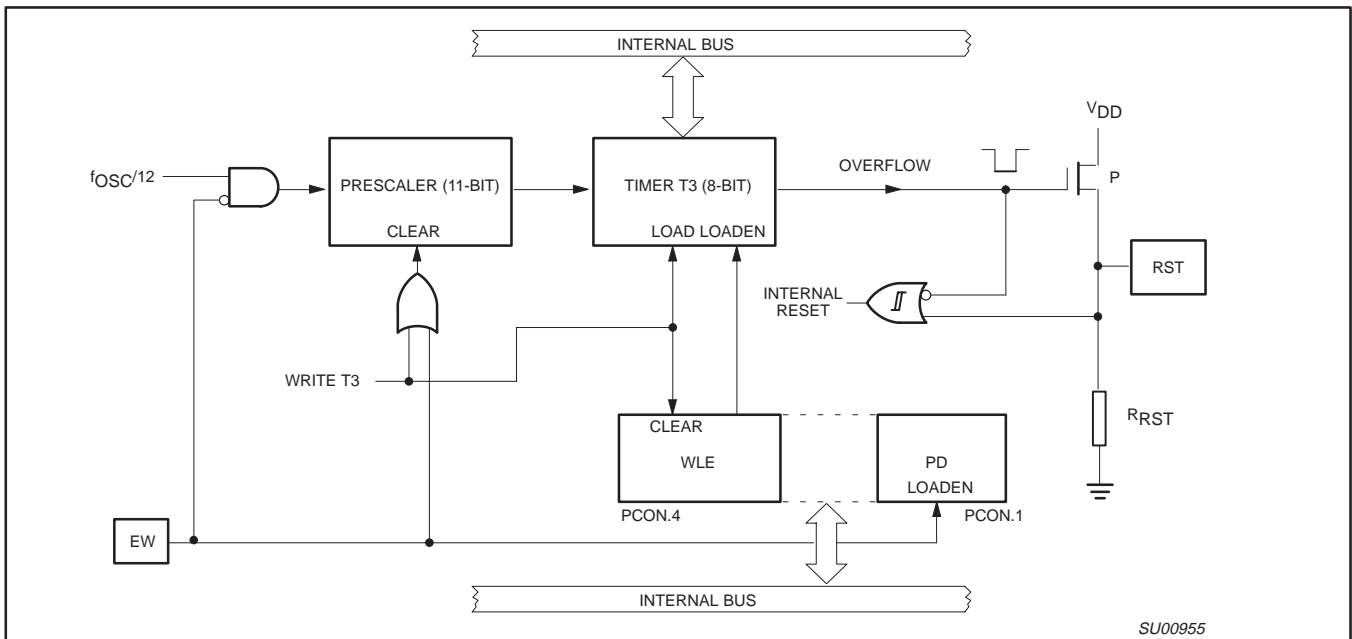

Figure 18. Watchdog Timer
**Watchdog Circuit Description:** The watchdog timer (Timer T3) consists of an 8-bit timer with an 11-bit prescaler as shown in Figure 18. The prescaler is fed with a signal whose frequency is 1/12 the oscillator frequency (1MHz with a 12MHz oscillator). The 8-bit timer is incremented every “t” seconds, where: